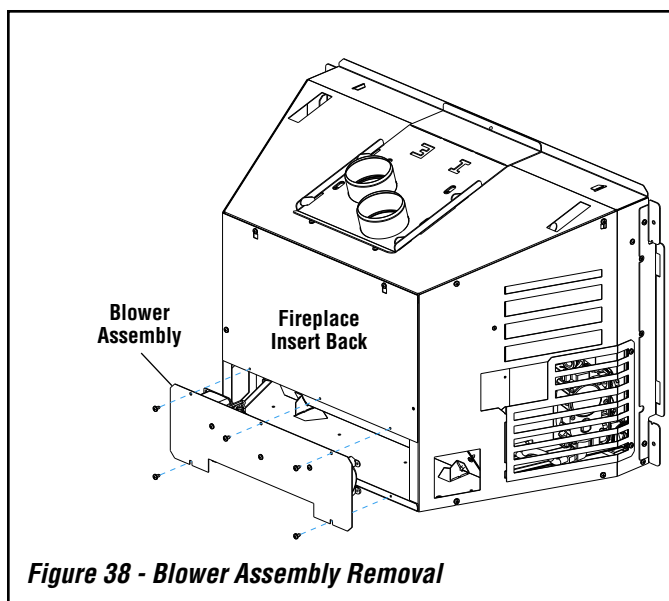

Figure 38 - Blower Assembly Removal
2. Remove five phillips screws holding fan assembly in place and carefully move assembly out of the way, exposing appliance wiring (see **Figure 38**).